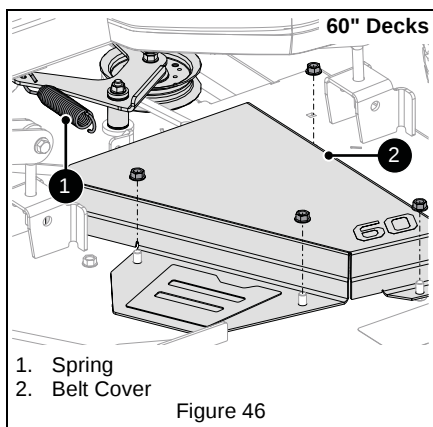

Figure 46
- See Figure 44, Figure 45 and Figure 46.